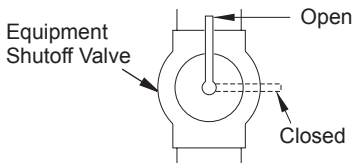

Figure 12 - Equipment Shutoff Valve
1. Close equipment shutoff valve (see Figure 12, page 12).
1. Open equipment shutoff valve (see Figure 12, page 12).